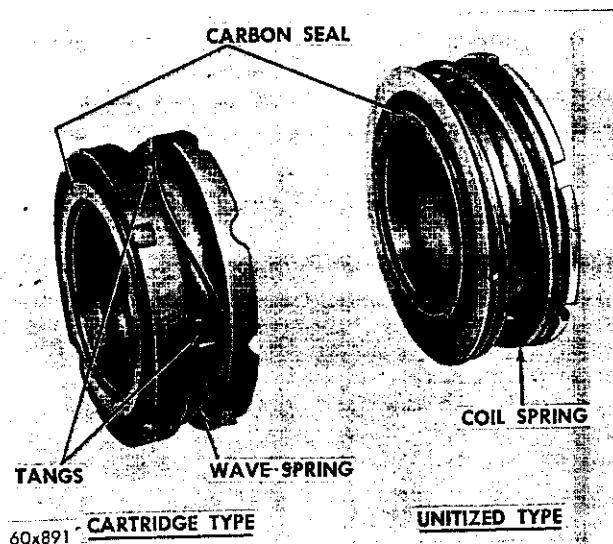
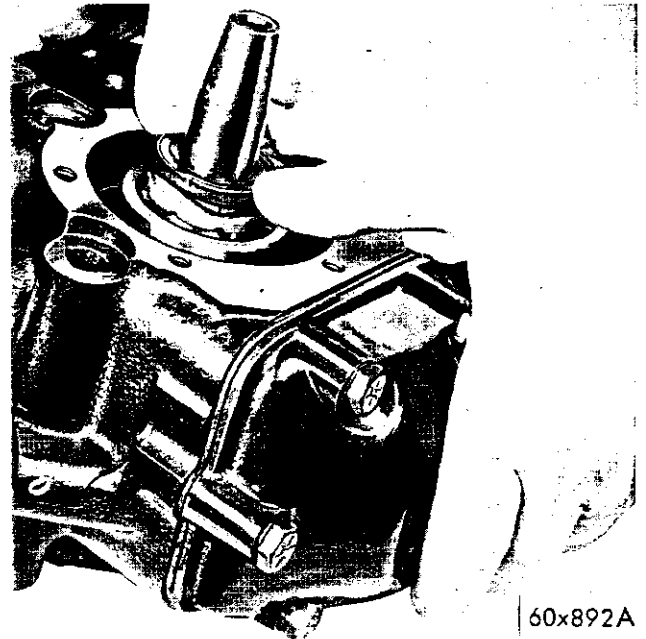

Fig. 48—Gas Seal Identification
Fig. 49—Inspect the Indexing of Tangs
The crankshaft gas seal replacement package consists of the crankshaft gas seal assembly and the crankshaft bearing housing seal face plate. Two types of crankshaft seals are supplied for service, as shown in Fig. 48. If the replacement package contains the cartridge-type seal, follow the entire installation procedure given below. If the replacement package contains the unitized-type seal, steps 1, 2, and 4 will not apply.
(1) Before installing the cartridge-type gas seal assembly, inspect the assembly to make sure that tangs index in slots of mating part. This will insure the proper spring action. The carbon seal must be assembled as shown in Fig. 48.
(2) Hold the seal firmly on the outside edge to prevent it from rotating out of the index slots.
(3) Lubricate the crankshaft with refrigerant oil. Slide the seal on the crankshaft with the smooth (carbon seal) surface up, or toward the front of the compressor.
(4) When the seal bottoms against the crankshaft bearing, inspect the indexing of tangs again by pressing down with thumbs to see if it has the proper spring action. (Refer to Fig. 49).
(5) Lubricate and install the crankshaft bearing housing seal face plate with the smooth (micro-finish) side up. Use a sleeve with the minimum inside diameter of  $1\frac{3}{8}$  inches to avoid damaging the micro-finish sealing surface of the face plate. Tap